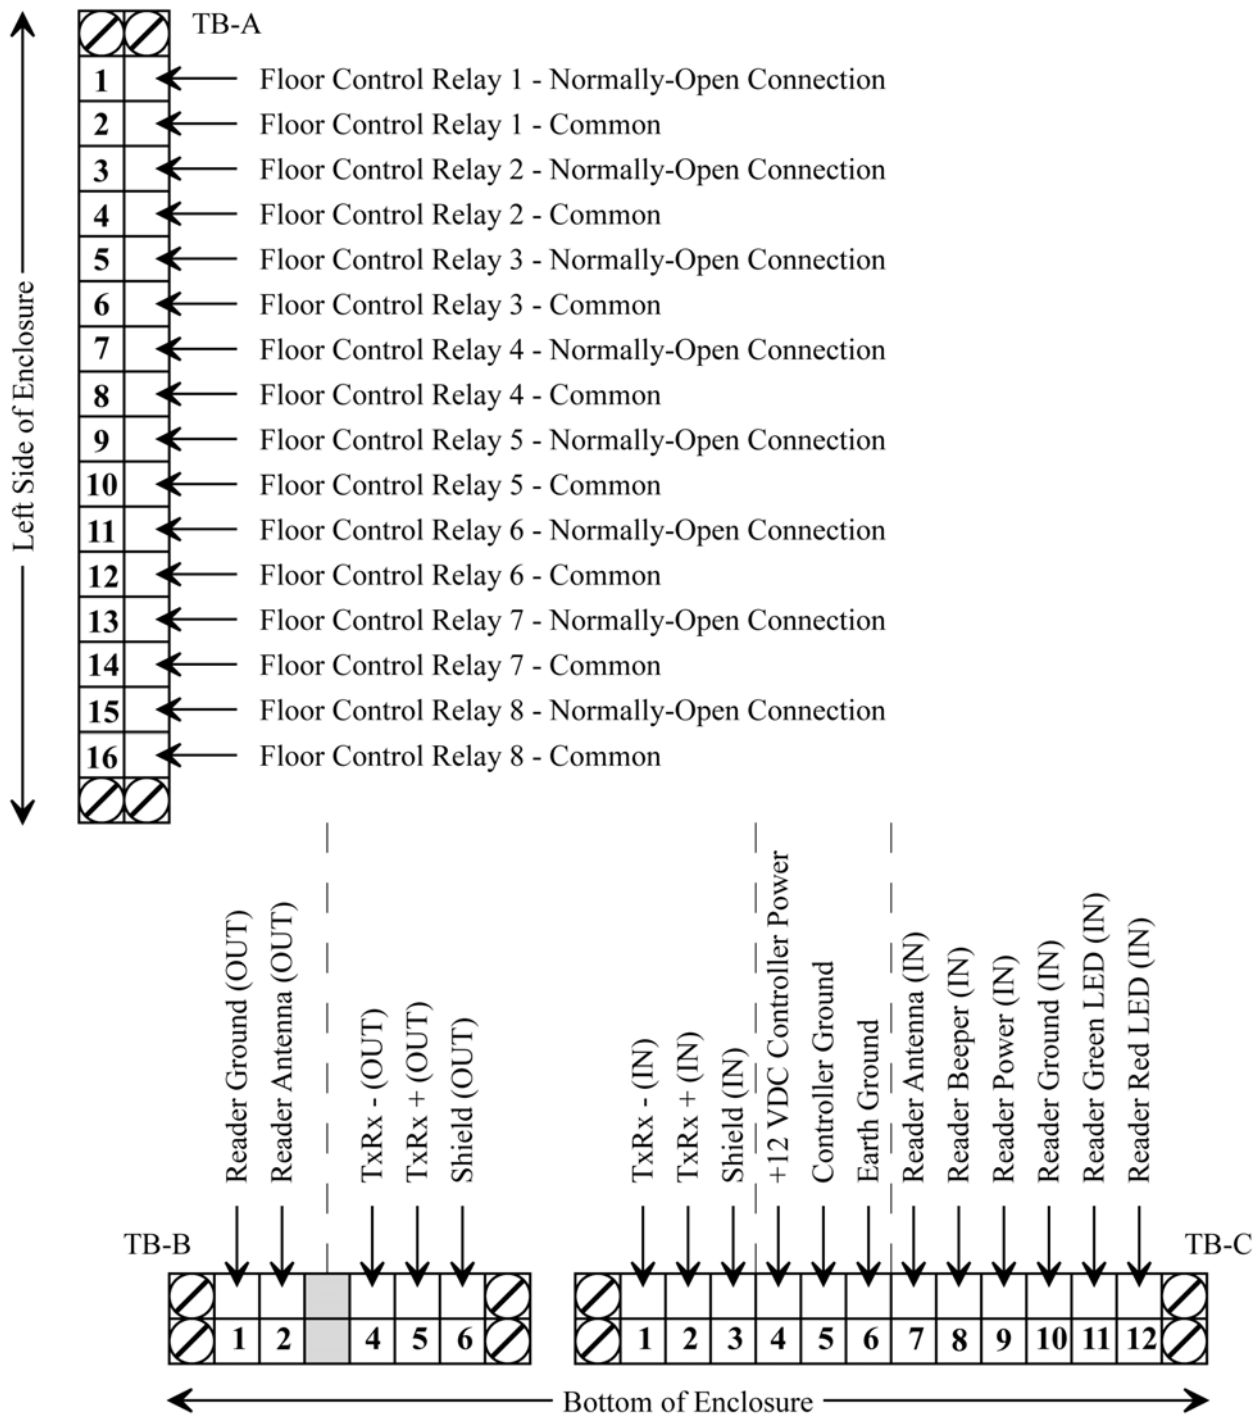

Figure 10: LC-508 Elevator Panel Wiring Connections
Figure 10 on page 16 provides a diagram of these terminal strip connections.
1. Make a complete set of connections to the LC-508P panel. Refer to Section 5.3 on page 15 and Figure 10 on page 16 for all connections to the LC-508P.